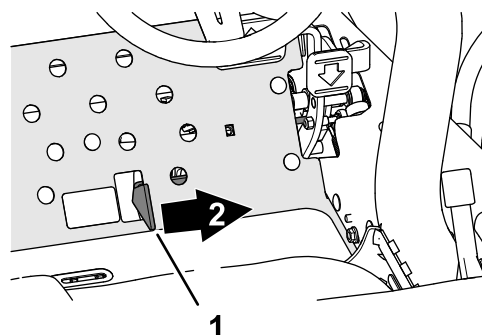

Figure 37
3. Press the cutting unit drive switch to the ENGAGE position (Figure 37).
4. Push the lower mow/raise lever forward (Figure 37) to lower and run the cutting units (the front cutting units are timed to lower before the rear cutting units).